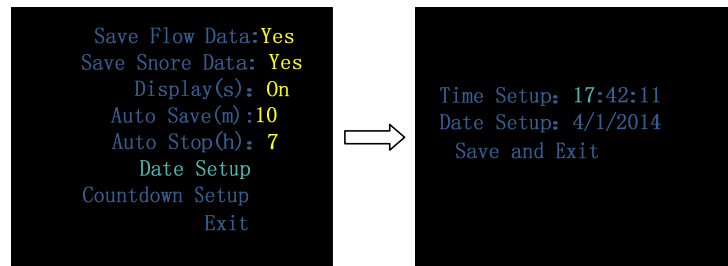

Figure 1-14 "Date Setup" interface
- **Date Setup**, allowing users to set time and date according to their needs. Select “Save and Exit” to exit the “Date Setup” interface, as shown in Figure 1-14.